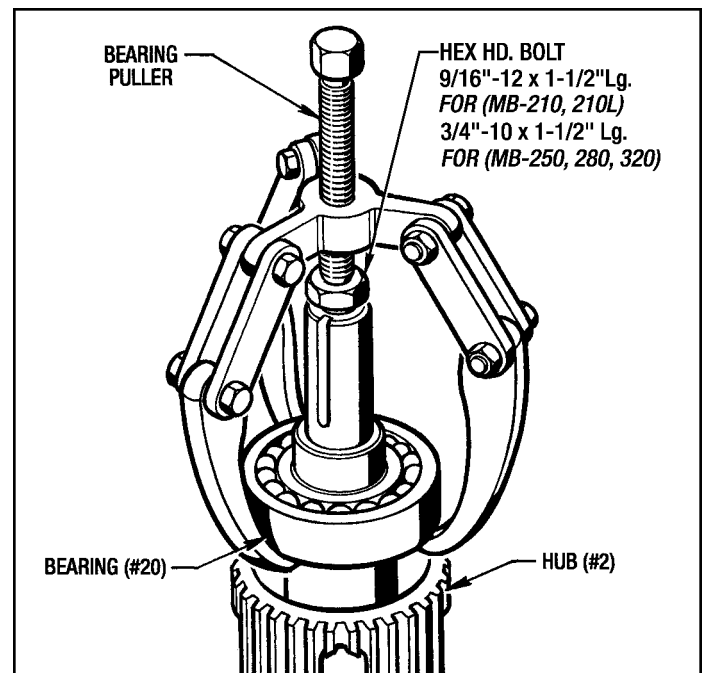

Figure 7.7 - Removing Bearing (#20)
1. Use a standard Bearing Puller to remove the Bearing (#20) from the Hub (#2) as shown in *Figure 7.7*.